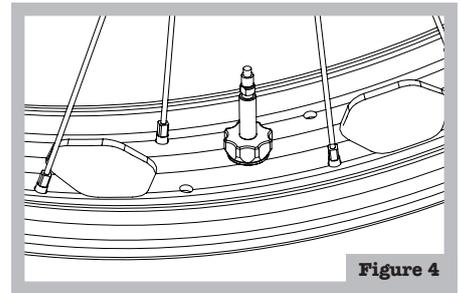

Figure 4
- Install tubeless valve. Push the tubeless valve through the valve hole. Thread on the valve nut and tighten it securely to ensure a seal between the rubber wedge on the valve and the inner surface of the rim. **Note:** When the valve nut is sufficiently tightened, the valve should not wiggle or move. (Figure 4). **Tip:** Use a pen or your finger on the rubber side of the valve to tighten nut.